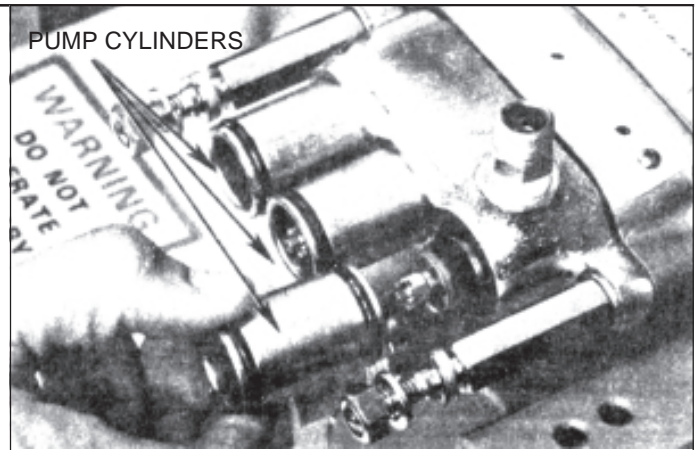

Figure 9
4. Remove the three pump cylinders by pulling straight out (*Figure 9*). Keep these in exact order from left to right as they must be replaced in their original position.